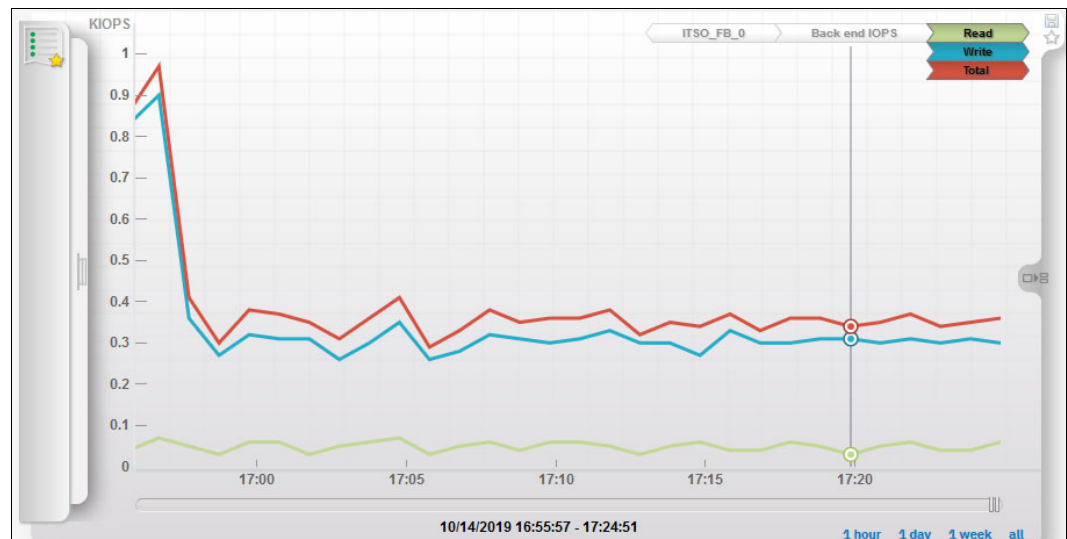

Figure 9-117 Pool performance graph
4. Draw the graph, which is shown in Figure 9-117.